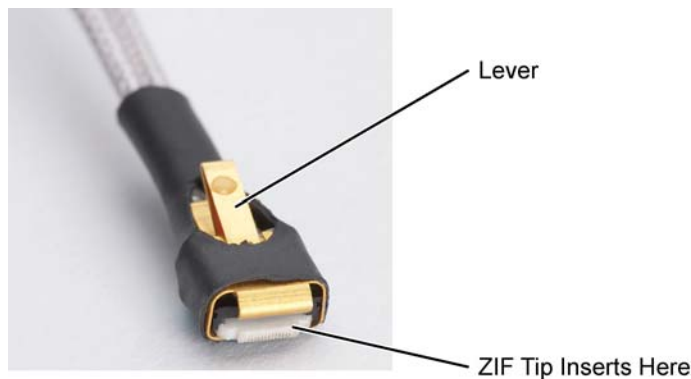

Figure 29 Probe Head with Location of the Lever
- 2 Form the coaxial cables to bring the probe head near the tip. Press the lever down on the ZIF probe head (see **Figure 29**) and slide the probe head onto the tip. Pressing on this lever removes the clamping force of the connector and enables you to insert or remove ZIF tips.